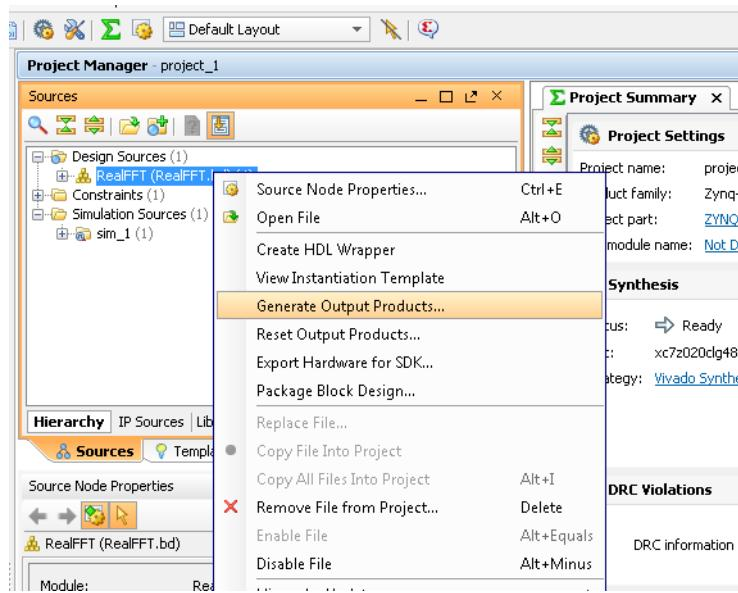

Figure 9-26: Generating Output Products
- In the Sources tab of Project Manager pane (Figure 9-26), right-click **RealFFT.bd** and select Generate Output Products.